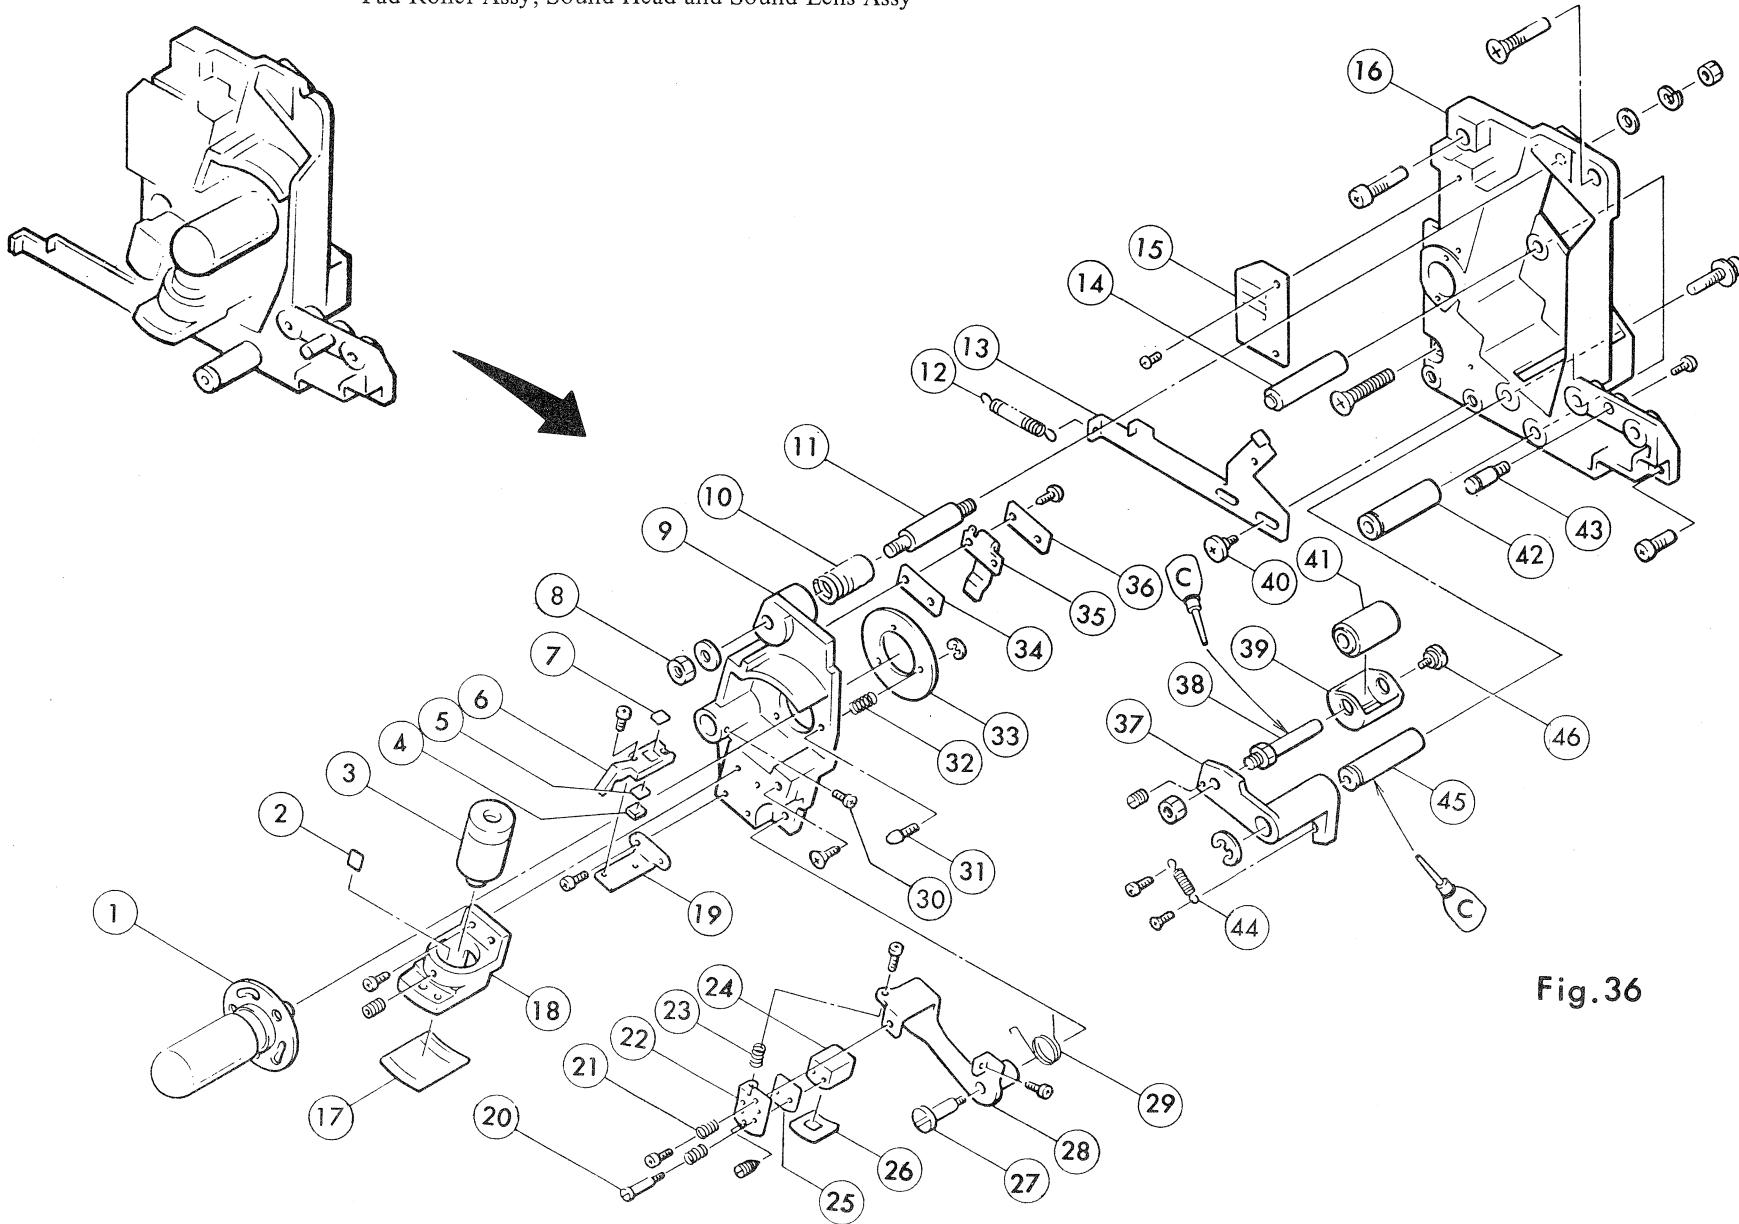

Fig.36
- 4) Refer to Fig. 36 for further disassembly.
- 2) Refer to Fig. 36 for further disassembly.